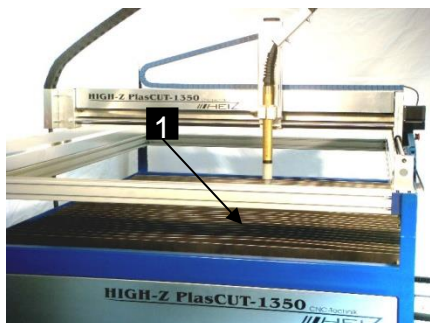

Figure 19a: Working area
- Range of motion of the axes (Fig. 19a/1) (when turned off) in order to clamp work pieces